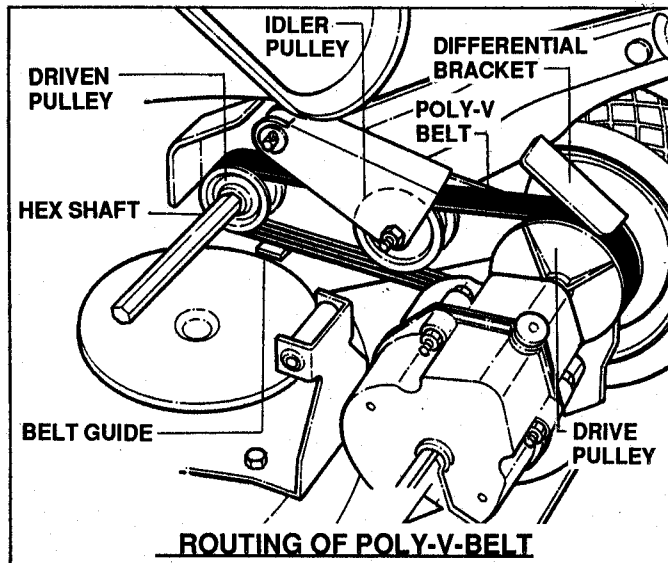

FIGURE 3.22
2. Note the routing of the old belt around the three pulleys before cutting and removing it. See Figure 3.22.
5. Twist belt sideways and pull it upward between the differential bracket and drive pulley and then down into the pulley groove. Make sure poly-v belt is above belt guide. See Figure 3.22.